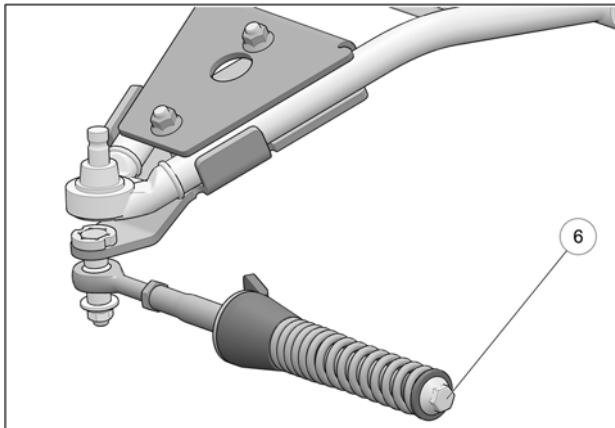

Fig. 13
- Verify that spring assembly bolt (6) is tightened to the recommended torque specification: 75 N•m [55 lb•ft]. Refer to Fig. 13